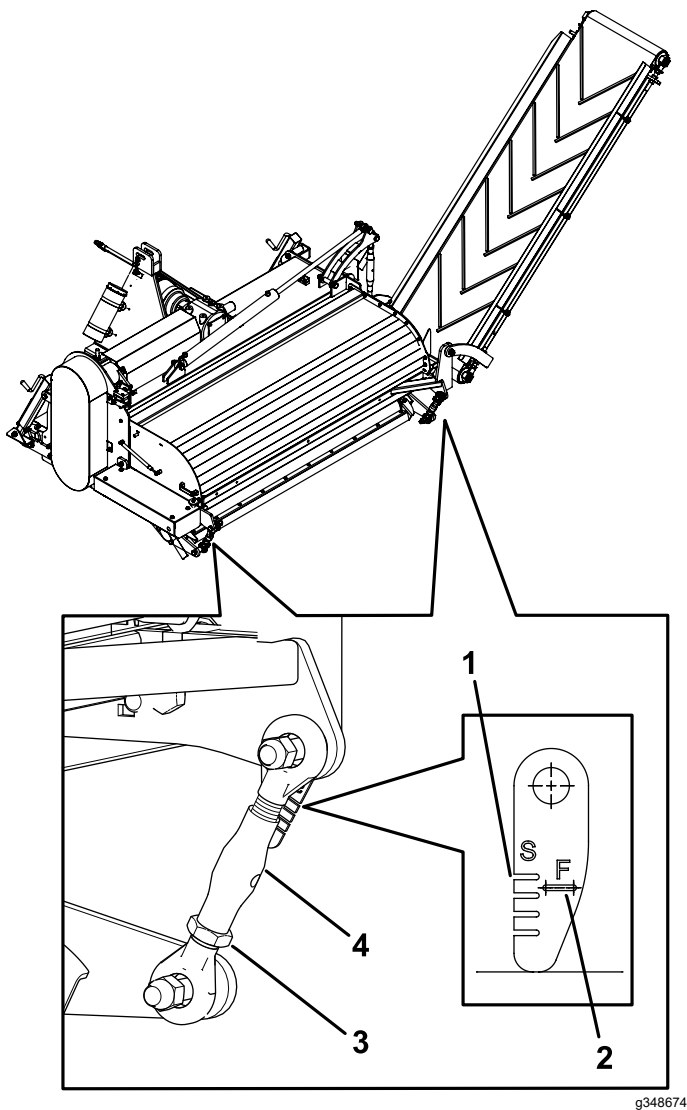

Figure 21
Ensure the rear roller is set to the fraising slot shown in Figure 21.
2. Adjust the rear links until they align with the fraising slot in the gauge (Figure 21).
3. Tighten the jam nut for each rear link (Figure 21).
Ensure the rear roller is set to the scarifying slot shown in Figure 21.
2. Adjust the rear links until they align with the scarifying slot in the gauge (Figure 21).